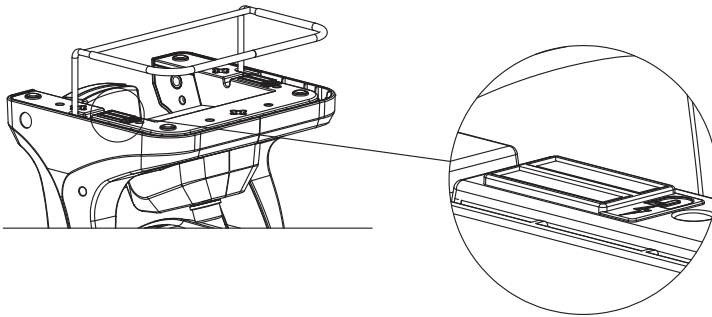

Fig.3
3. Use the magnets to secure the fan to a metal surface at least 1/8" thick. (as Fig.3)
4. Pull the spring loaded clamp from under the fan to secure it to a surface no more than 2" thick. (as Fig.3)